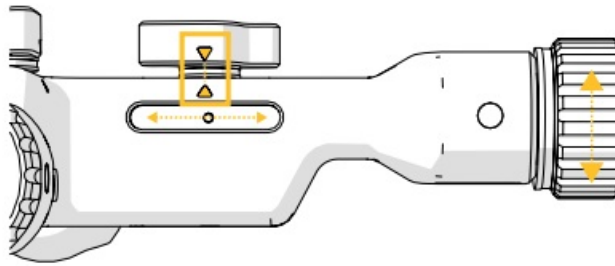

Figure 2: Adjusting the wheel for arrow alignment.
Prior to setting up the Precision Targeting System adjust the knobs so that the marked arrows in Figures 2 and 3 match.
3. Adjust the linear adjustment knobs so that the marked arrows in Figure 2 match. The nominal position of the arm is achieved by aligning the arrow heads.